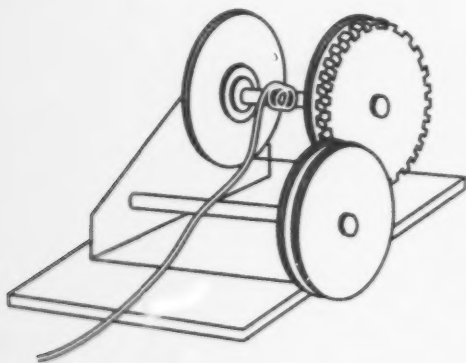
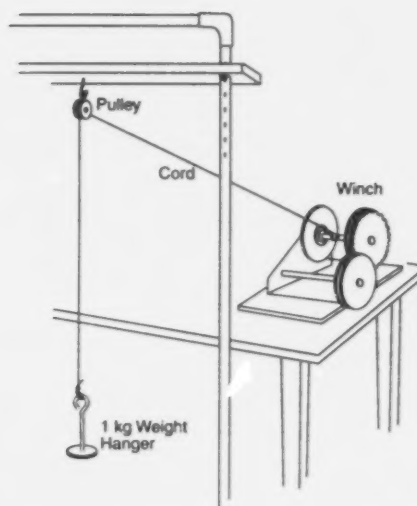

Figure 7 - Winch
Figure 8 - Setup
1. Identify the parts of the winch by using Figure 7.
2. Measure the radius of the winch disk. This measurement is the length of the lever arm (L). $L =$ _____
3. Set up the equipment as pictured in Figure 8.